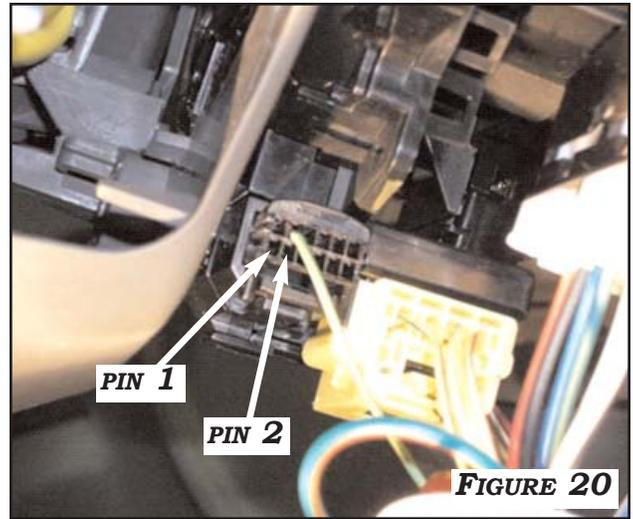

FIGURE 20
2. WITH IGNITION SWITCH ON, PLACE POSITIVE LEAD OF METER ON **PIN 1** (DC).
3. PLACE COMMON LEAD ON **PIN 2** (GROUND). **SEE FIGURE 20**. CONFIRM READINGS ARE AS FOLLOWS: